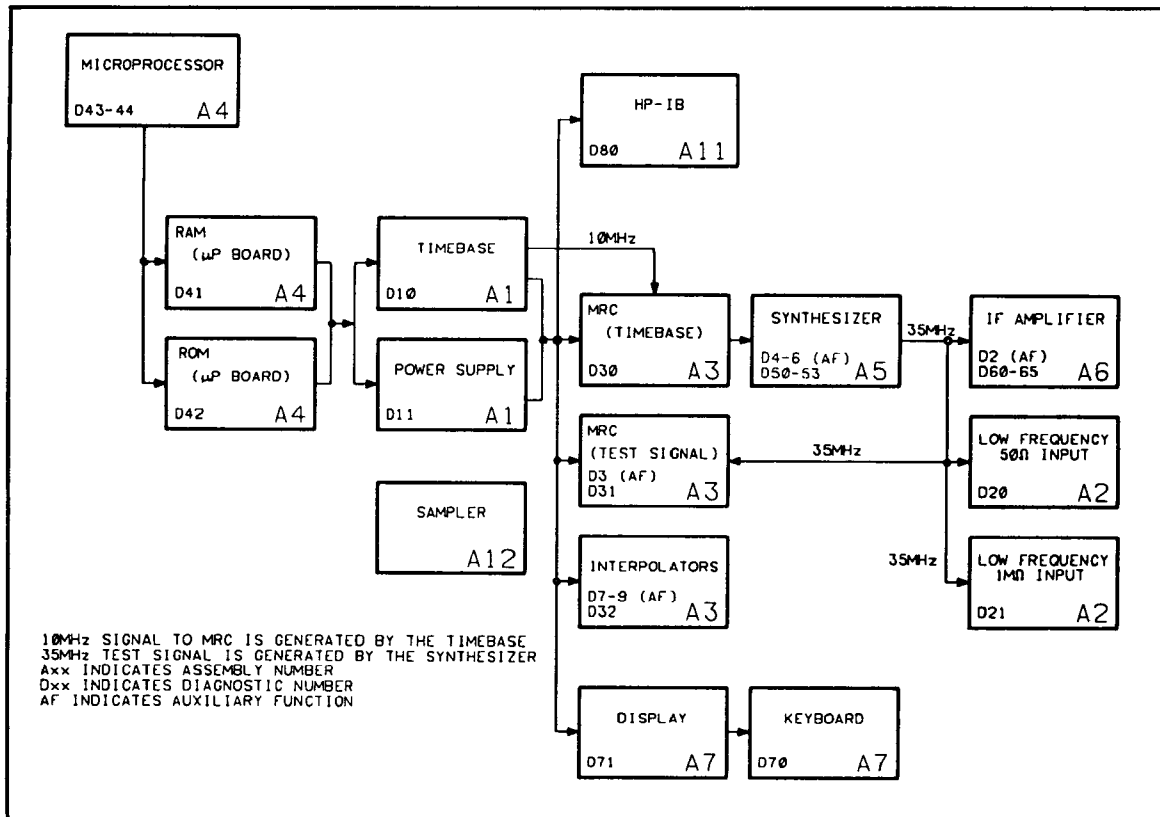

Figure 8-27. Diagnostic Inference Chart
8-552. The diagnostics in the HP 5350B/51B/52B have been designed using the kernel technique (i.e. the diagnostic test relies on not more than one untested assembly to perform the test). Therefore, it is important to know the status of all the assemblies involved in a particular test in order to confirm a diagnosis. The arrangement of the Self Check tests, and the Inference Chart shown in *Figure 8-27*, facilitate this.
8-558. Once a particular assembly has been identified as failing a diagnostic test or self test routine, the operator should refer to the Inference Chart, *Figure 8-27*, to determine further checks to perform. The "flow" of the Inference Chart is from left to right. In order to verify a particular assembly, all assemblies in the direct path to the left of the suspect assembly should be verified. For example, if executing a Self Check resulted in displaying an A6 Assembly failure (Diag 60, 61, 62, 63, 64, or 65 failure), the next step would be to verify the A4, A1, A3, and A5 assemblies, using the associated diagnostics.
- Diagnostic failures on the A2 through A7 assemblies. (See the Inference Chart, *Figure 8-27*.)